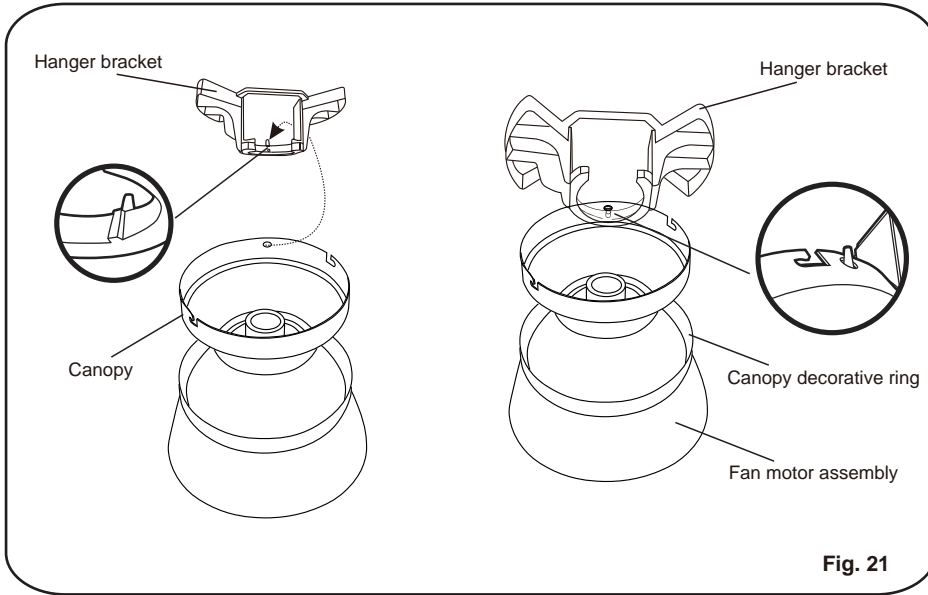

Fig. 21
Step 6. To prepare the fan for wiring, hang fan onto hanging bracket by sliding the canopy over the hanging bracket tab. (Use one of the non-slotted holes on the rim of the canopy) (Fig. 21)